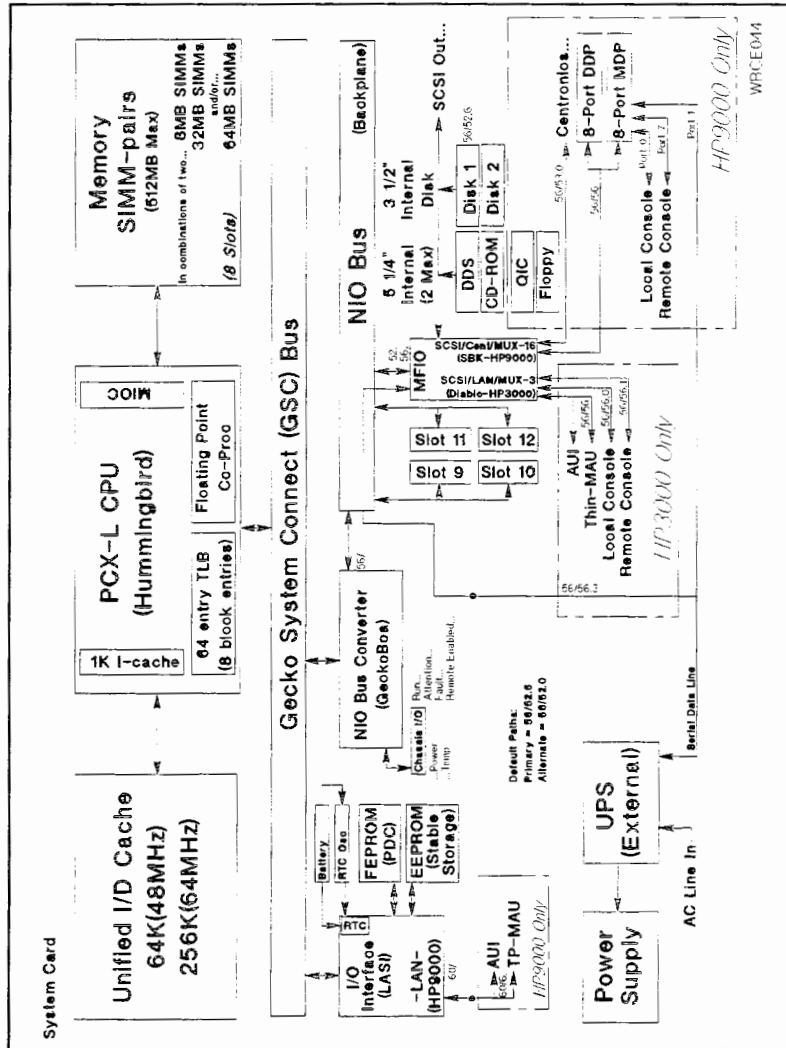

Figure 9-1. HP 3000 and HP 9000 System Block Diagram
Refer to Figure 9-1. The PCX-L Central Processing Unit (CPU) is a single-chip Precision Architecture - Reduced Instruction Set Computer (PA-RISC) processor. The CPU conforms to PA-RISC architecture, Edition 3. An additional feature is two-way superscalar operation. It provides the ability to execute integer-integer and integer-floating point instruction bundles in parallel. The CPU also contains an on-chip Floating Point Co-processor (FP), on-chip Memory and Input/Output Controller (MIOC), on-chip Translation Lookaside Buffer (TLB), and a first-level on-chip instruction cache.